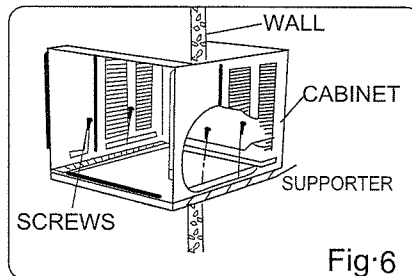

Fig.6
- Remove shipping pad from around compressor before operation and make sure the discharge points to the drain pan are aligned before the chassis is pushed into the cabinet (See Fig.6).